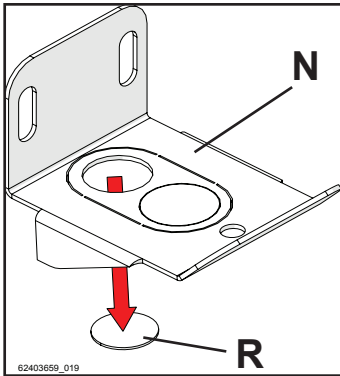

Figure 5-38
- 5 - Remove pre-cut disc "R" from fixing bracket "N", as shown in figure 5-38;